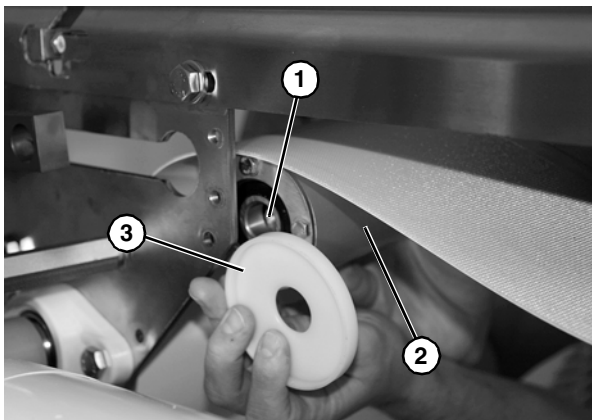

Figure 43
15. Slide shaft (**Figure 43, item 1**) into tensioner pulley (**Figure 43, item 2**), and remove spacer plate (**Figure 43, item 3**).
*When removing components, be sure to note the orientation of spacer plate (**Figure 43, item 3**) on each end of conveyor.*
16. Remove tensioner pulley (**Figure 43, item 2**) and remaining spacer plate.